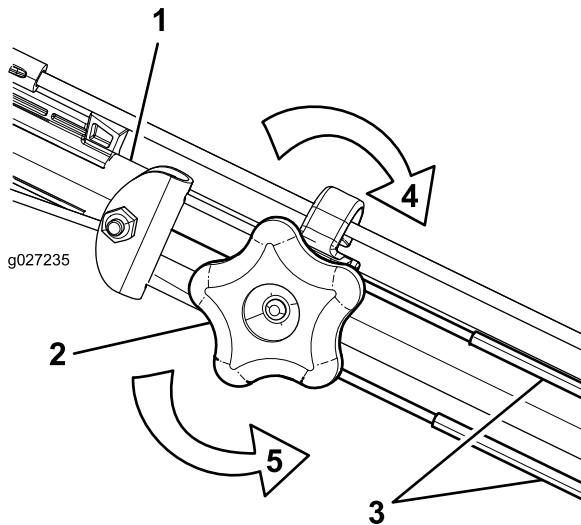

Figure 27
1. Turn the adjustment knob counterclockwise to loosen the cable adjustment (Figure 27).
2. Adjust the tension on the cables (Figure 27) by pulling them back or pushing them forward and then holding them in that position.